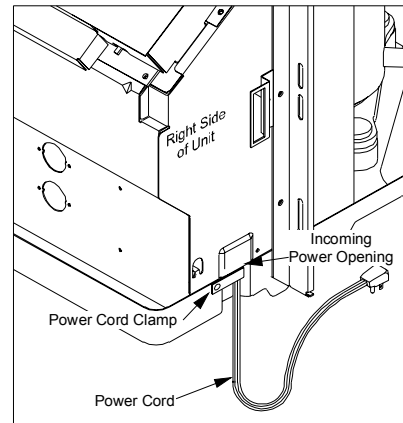

Figure 2
1. Remove the power cord clamp located near the bottom right of the chassis (Figure 2).
- Secure the cord to the partition panel using the power cord clamp and #8 screw shipped in the kit (Figure 2).